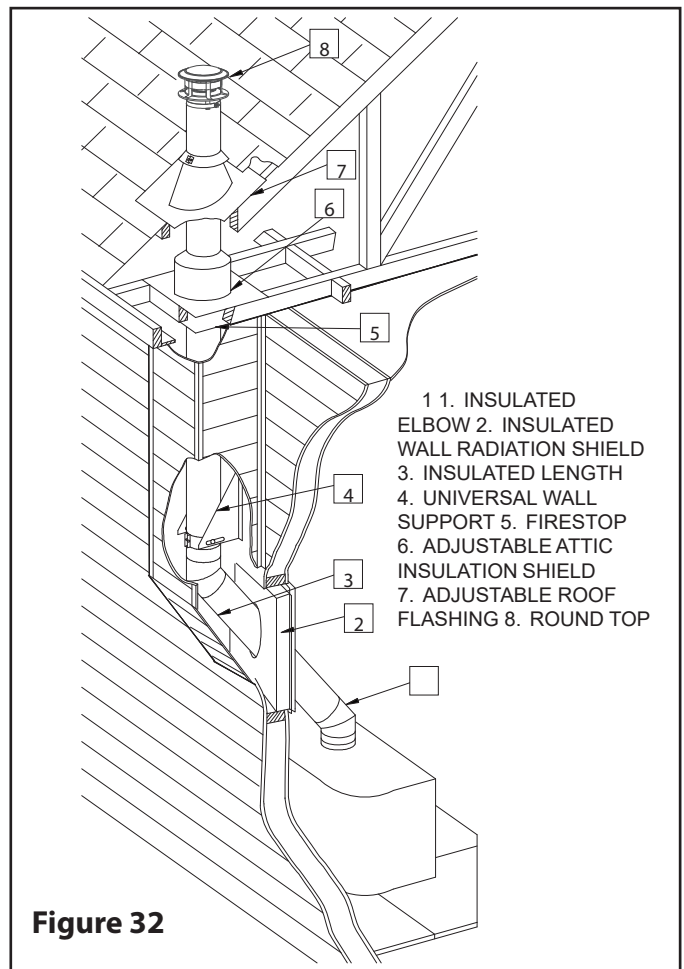

Figure 32
Step 1. Refer to **Table 8, Figures A and C** for more information. Refer to **Figure 32** as visual reference.
Step 3. Attach the support brackets to the wall using (8) 3" nails or (8) N^o. 10 x 1-1/4" wood screws.